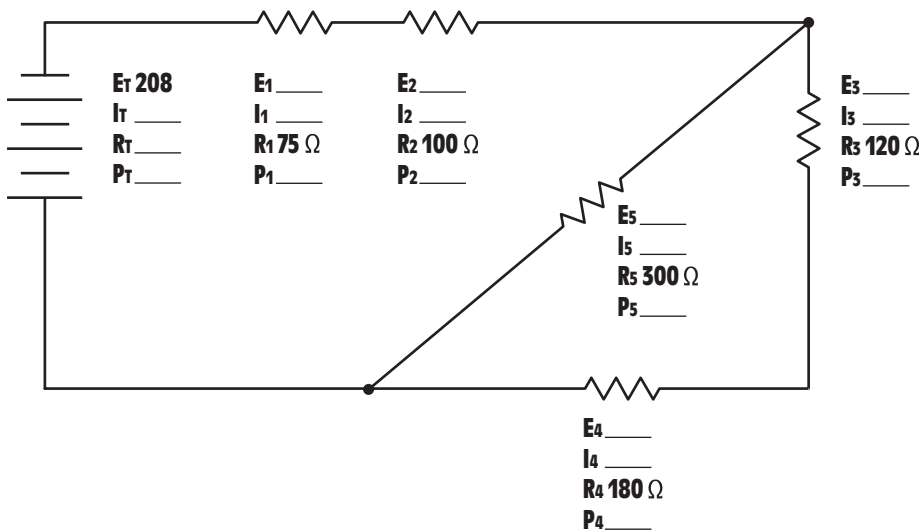

Figure 7-30 Practice Problem 10.
10. Find all the missing values in the circuit shown in *Figure 7-30*.